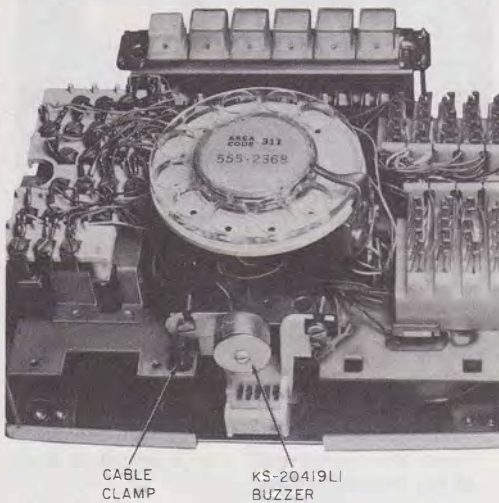
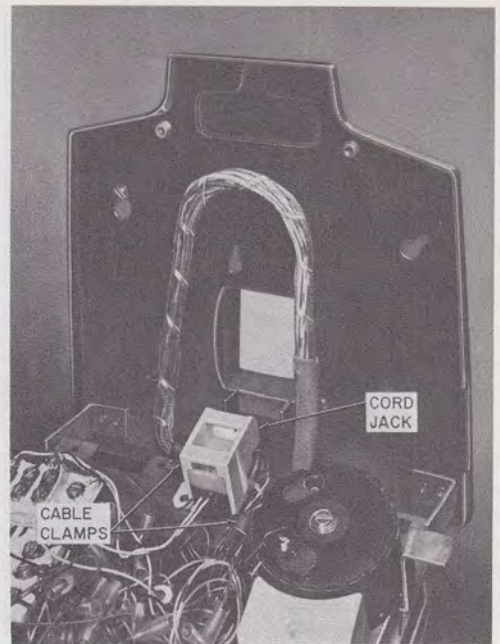

Fig. 8—KS-20419L1 Buzzer Mounted on 851-Type Telephone Set
Fig. 9—Inside Wiring Cable, Exposed Wiring
- (1) Remove sheath to surface of outlet box or bottom of hole in base pan, depending on method of wiring.
- (2) Remove cable clamps. Pinch legs of clamp from front of chassis (Fig. 8).
- (3) Slip one of the clamps provided with set around conductors approximately 9 inches from end of sheath. Add second clamp 2 inches above first.
- (4) Form slack loop as shown in Fig. 9 or 10 and install first clamp in hole to left of cord jack.
- (5) Route cable below jack and install second clamp in hole to left of ringer.
- (6) Twist ends of conductors together and feed through opening between dial, ringer, and connecting blocks.
3.06 If the set is served by the connector equipped end of an A25B connector cable, a D-180375 Kit of Parts must be used to obtain raw-ended conductors for termination. The mated connector and plug should be located as shown in Fig. 11. Check that connector and plug do not interfere with operation of line switch. Cable is routed and fastened in same manner as IW cable (Fig. 9 and 10).
3.15 Buzzer: The KS-20419L1 buzzer is mounted on an insulated bracket below the dial (Fig. 8). If required, the KS-20419L1 may be replaced by the KS-8109L2 buzzer (14-30 volt ac or dc) which would be mounted using both screws.